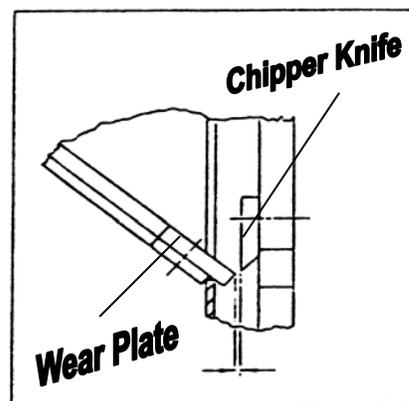

Figure 3
5. Care must be exercised when sharpening the blade to maintain the correct bevel and a straight edge. When you install a knife, the clearance between knives and wear plate must be checked. This clearance or gap should be minimum 1/16", maximum 3/16" (See figure 3). To adjust this clearance, loosen the three 1/4 inch flathead bolts (item #11, pg. 19) which are located on the outside of the chipper wear plate (item #12, pg. 19) next to the chipper side plate. Move the wear plate in or out as necessary and tighten the 1/4 inch nuts securely.